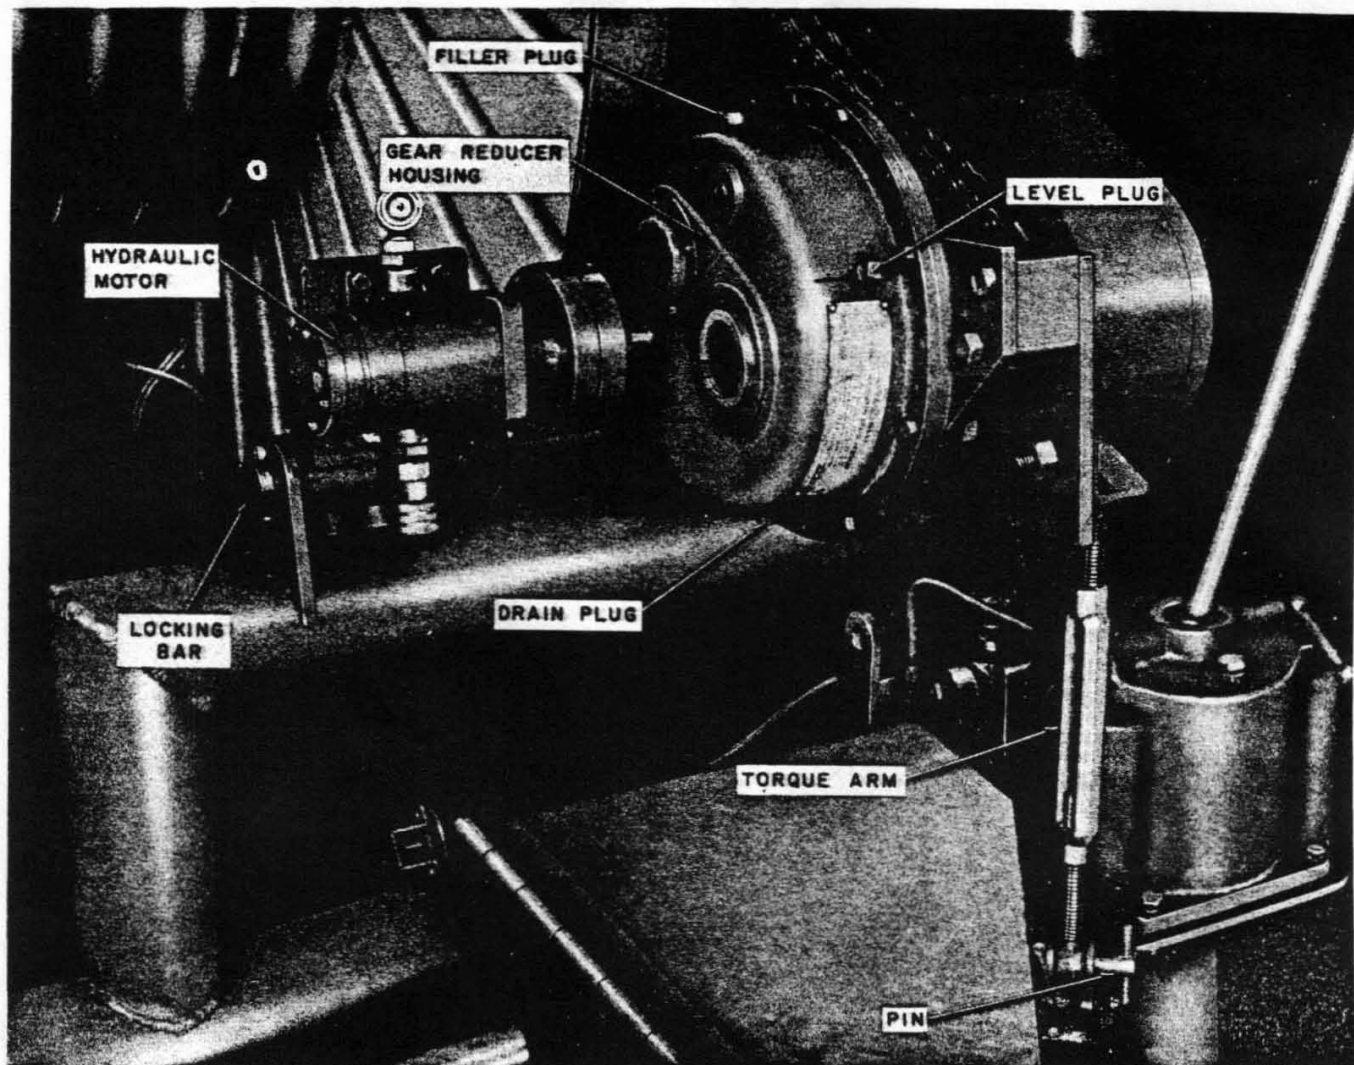

Fig. 13—Cable Take-Up Drive Unit
6.02 Remove the pin from the torque arm (Fig. 13) and tilt the drive unit toward the cable reel to allow the chain to be placed on the drive sprocket under the chain guard. Return the drive unit to its original position and replace the pin. Be sure the sprocket on the drive unit is aligned with the